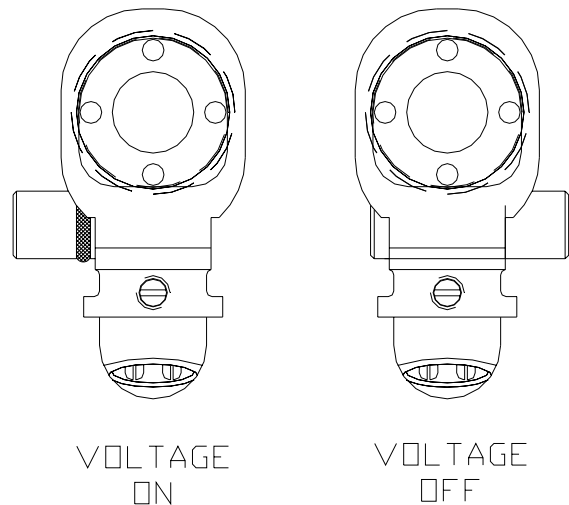

Figure 17: Hook/Transformers Switch Position
5. Make sure that the on/off switch of the hook/transformer is in the "ON" position, if the unit has this option (refer to Figure 17).